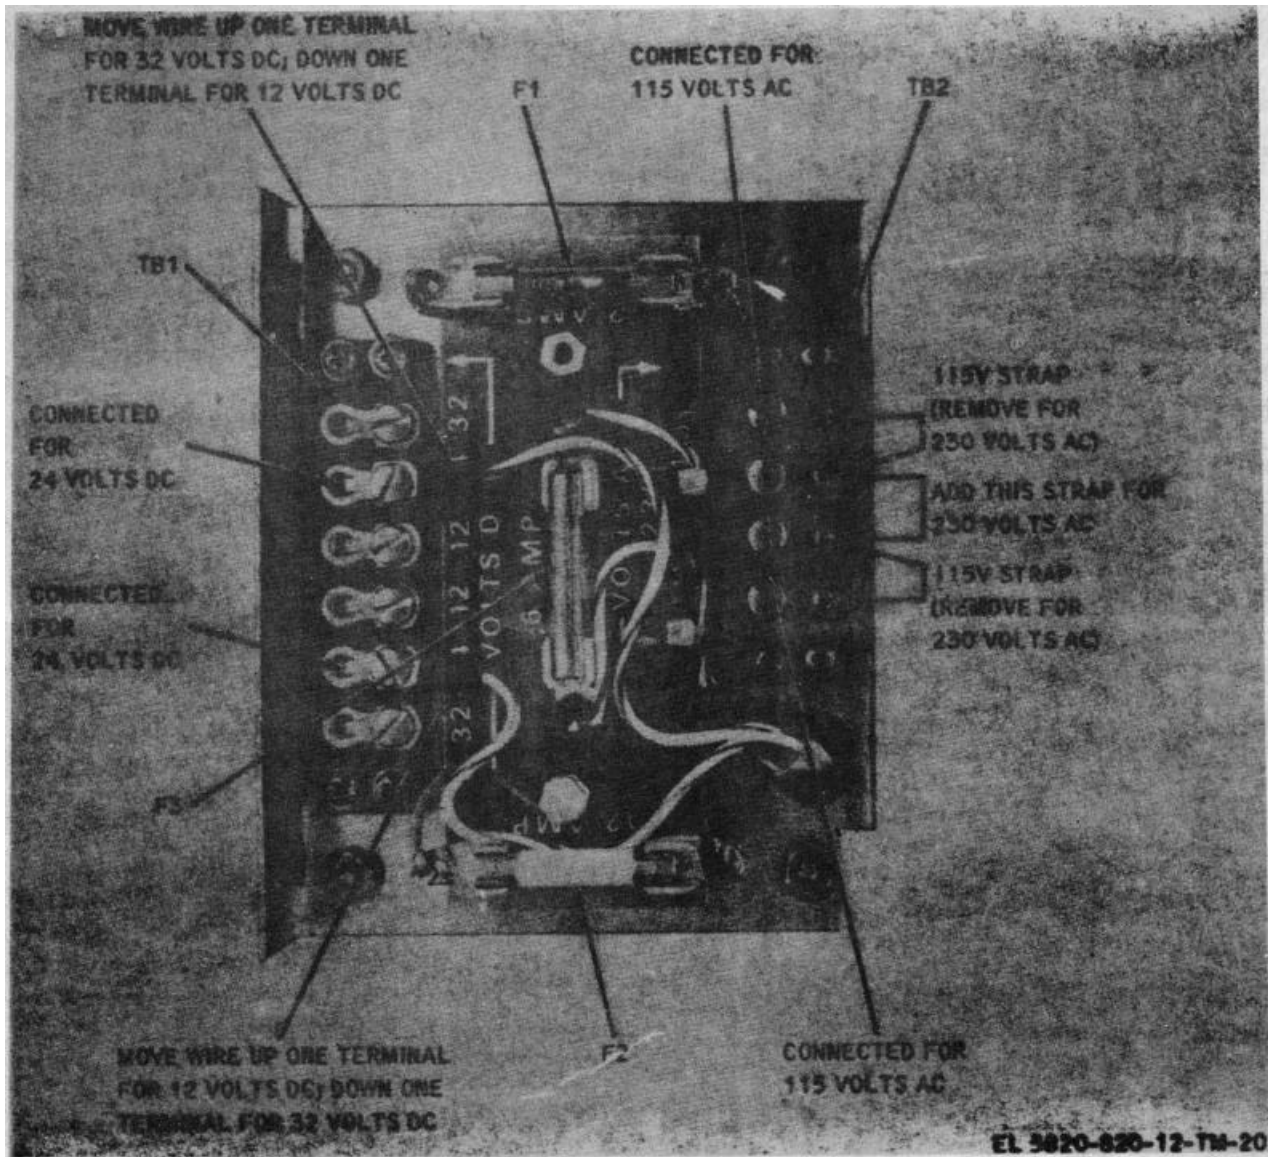

Figure 2-11. Changing strapping options or fuses on power supply module 6A7.
(d) Refer to figure 2-11. Note that the two connections to TB1 are for 24-volt dc operation and the two 115-volt straps on TB2 select 115-volt ac operation. To select 12 or 32-volt dc operation, move the two connections on TB1 as indicated in figure 2-11. To change from 115-volt ac operation to 230-volt ac operation, remove the two 115-volt ac straps and add the 230-volt ac strap as shown in figure 2-11.
b. *Fuses.* The AN/URC-80(V)1/3 is shipped from the factory with all the fuses in place. Refer to table 2-3, and figures 2-11 and 2-14 for fuse location, size, and function.